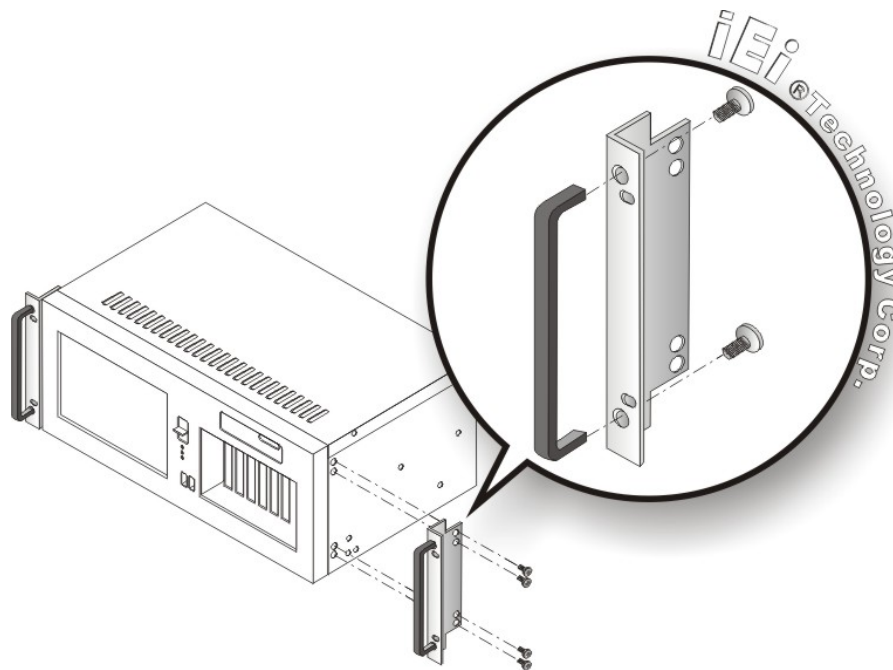

Figure 4-12: Rack Handle Bracket Assembly and Installation
Step 1: The left and right side panels of the workstation each have four screw holes for rack handle bracket installation. Assemble the rack handle brackets and secure them to the workstation. (See **Figure 4-12**)